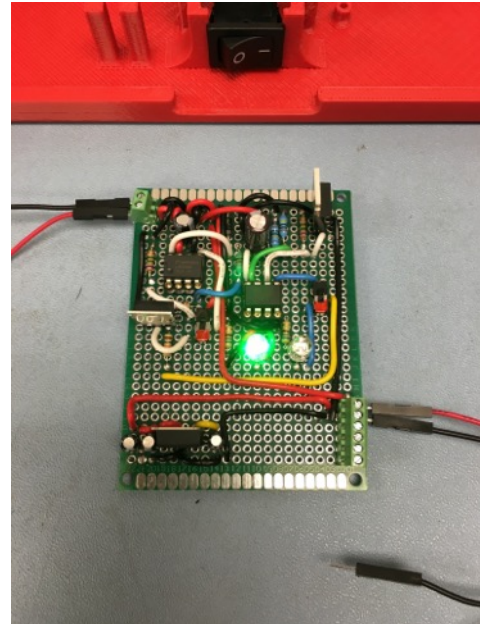

Figure 3.
5. Set the second board switch to BLACK. You should see the BLUE LED turn off, while the GREEN LED remains illuminated (Figure 3). You are now ready to fly.